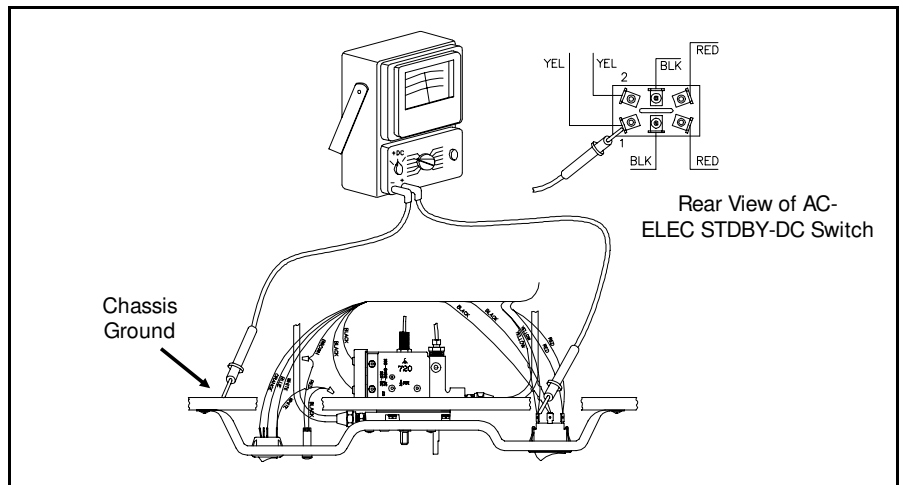

Figure 3.44 12 Volt Check at Switch Inlet
6. Step 6, 7 & 8 apply to 3-Way units only. If you are checking a 2-Way skip to Step 9. Set AC-ELEC STDBY-DC switch to ELEC STDBY (not DC). With a Volt-Ohm meter, check for 12 Volts DC between Point 1 and ground shown in Figure 3.44. Then check Point 2. One test point should read 12 Volts and the other should read 0 Volts (the point which reads 12 Volts is the switch input terminal). This confirms voltage to the switch. If neither test point reads 12 Volts, check for bad connections.
11. Check for 12 Volts at Points 1 and 2 of switch and ground as shown in Figure 3.44 (AC-ELEC STDBY-DC switch is now set at DC).